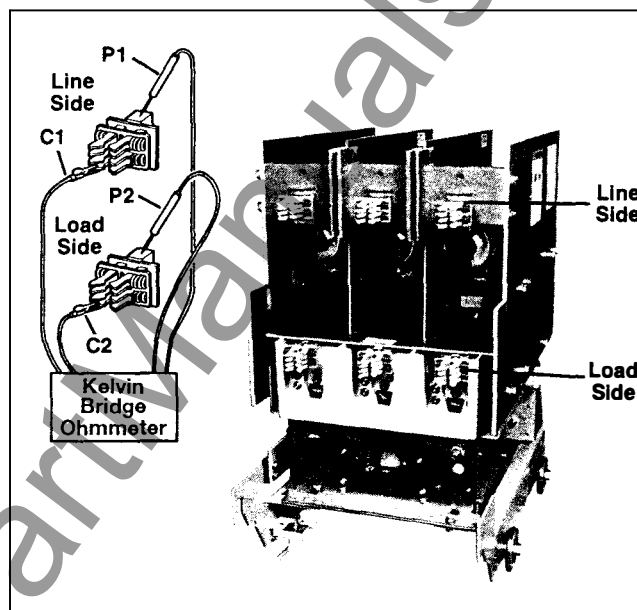

Figure 38. Connection to Measure Contactor's Pole Resistance
5. Measure resistance across each contactor pole from the line to the load terminal as indicated in **Figure 38**. If the resistance exceeds the values indicated in **Table 5**, loosen connections and perform the following procedure: